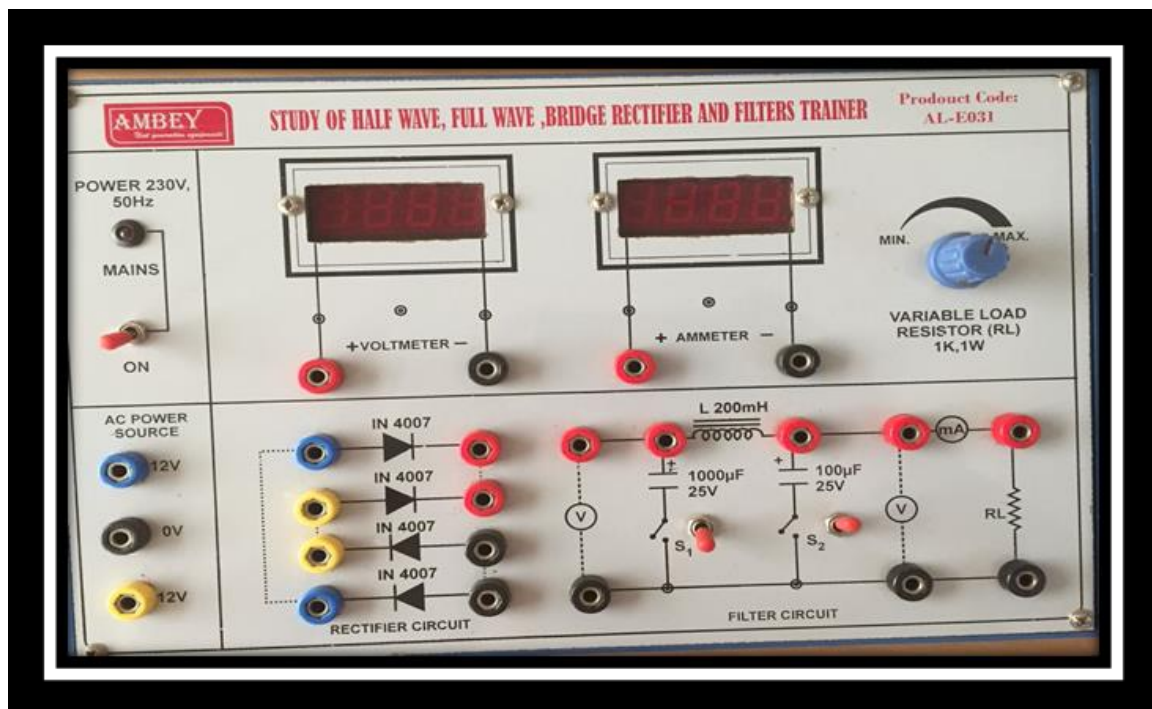

Fig. 4.3: Trainer Board for Rectifier
1. On the trainer board, as shown in Figure 4.3, the solid lines signify the connections already made; whereas dotted lines are used to indicate the connections which can be made using connecting leads.